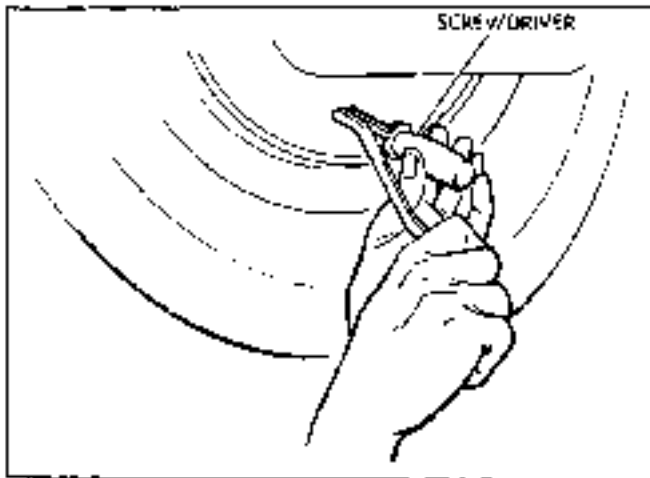

Fig. 5-4 Preparing to Back Off Adjusting Screw
5. Hold automatic adjuster actuator arm away from adjusting screw with screw driver or probe and back-off one turn (Pontiac - 30 notches, Tempest and Firebird, 20 notches of adjusting screw star wheel), (Fig. 5-4 and 5-5).
screw slot in the backing plate and hold automatic adjuster lever away from adjusting screw star wheel and rotate adjusting screw upward (Figs. 5-4 and 5-5).